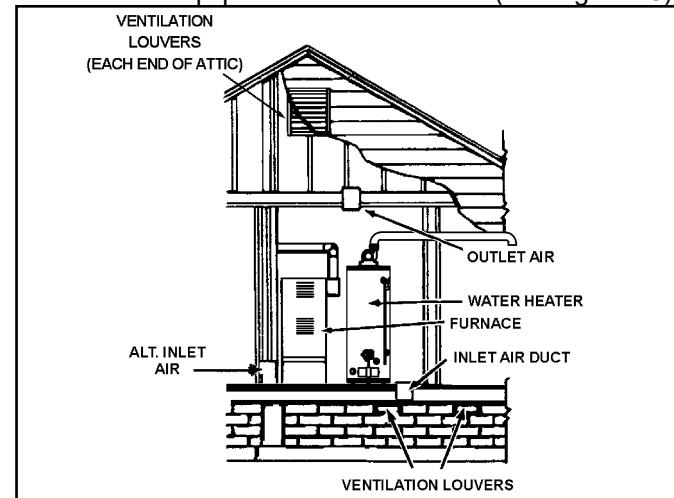
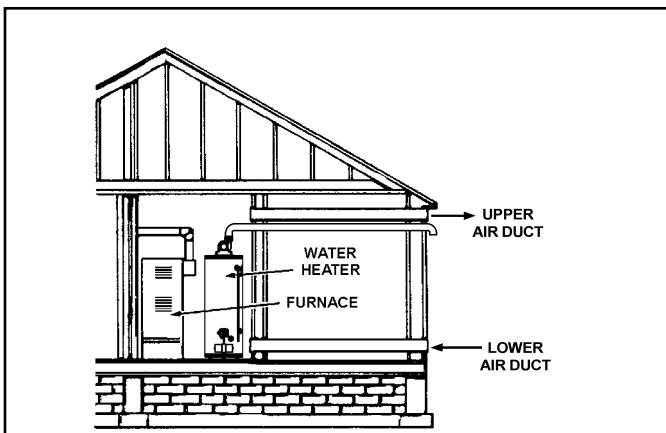

Figure 18.
Figure 20.
B. ALLAIR FROM OUTDOORS: (See Figure 18 through Figure 20)
1. When directly communicating with the outdoors, each opening shall have a minimum free area of 1 square inch per 4,000 Btu/hr of total input rating of all equipment in the enclosure (see Figure 18).
3. When communicating with the outdoors through horizontal ducts, each opening shall have a minimum free area of 1 square inch per 2,000 Btu/hr of total input rating of all equipment in the enclosure (see Figure 20).
4. When ducts are used, they shall be of the same cross-sectional area as the free area of the openings to which they connect. The minimum short side dimension of rectangular air ducts shall not be less than 3 in. (see Figure 20).